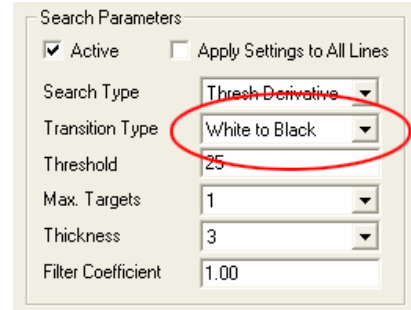

Figure 5
12. Change the Transition Type from “Black to White” to “White to Black” by selecting it from the dropdown menu (Figure 5).